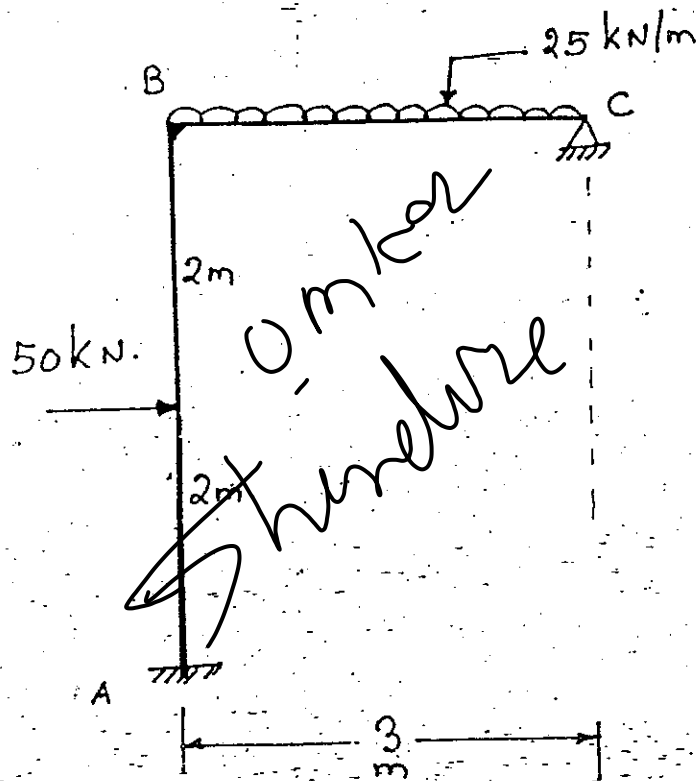

Fig.7
14. Obtain reaction components at the hinge support C by using flexibility method. Take EI constant. Ref. Fig. 7